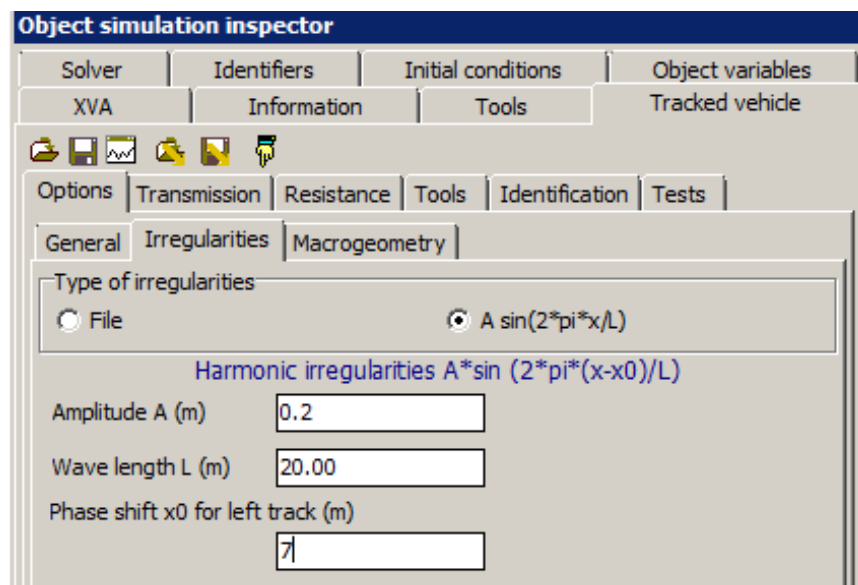
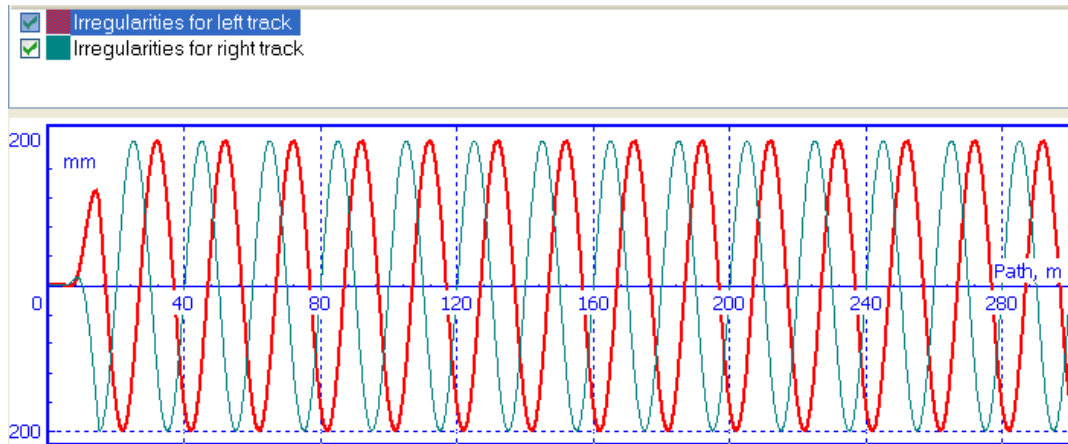

Figure 2.21. Parameters of sinusoidal road profile
Figure 2.22. Sinusoidal irregularities for the left (thick) and right tracks
2. Use the **Tracked vehicle | Options | Irregularities** tab to set parameters of sinusoidal irregularities, Figure 2.21. By  $x_0=0$ , the irregularities for the left and right tracks are equal, by  $x_0>0$  the left road curve passes ahead of the right one. Use the  button to visualize the curves, Figure 2.22.